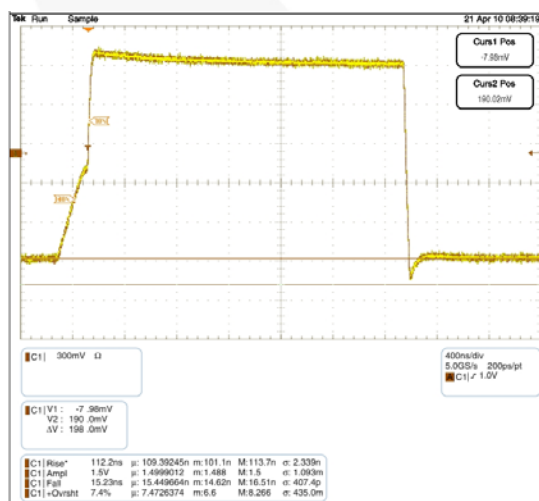

Figure 14. Rise Time Driving 600pF Load
Due to the I^2C open-drain topology, I^2C drivers are not push/pull devices. Logic LOWs are “pulled down” (I_{sink}), while logic HIGHs are “let go” (3-state). For example, when the source lets go of SCL (SCL always comes from the source), the rise time of SCL is largely determined by the RC time constant, where $R=R_{PU}$ and C =the bus capacitance. If the FXMHD103 is attached to the source [on the A port] and there is a source on the C port, the Npassgate acts as a low-resistive short between both ports until either of the port's $V_{CC/2}$ thresholds is reached. After the RC time constant has reached the $V_{CC/2}$ threshold of either port, the port's edge detector triggers both dynamic drivers to drive their respective ports in the LOW-to-HIGH (LH) direction, accelerating the rising edge. The resulting rise time resembles the scope shot in Figure 14. Effectively, two distinct slew rates appear in rise time. The first slew rate (slower) is the RC time constant of the bus. The second slew rate (much faster) is the dynamic driver accelerating the edge.
The FXMHD103 dynamic drivers have enough current sourcing capability to drive an 800pF capacitive bus. The Figure 14 scope shot is of an FXMHD103 driving a lumped load of 600pF. Notice the (30% - 70%) rise time is only 112ns ($R_{PU}=5K\Omega$). This is well below the maximum rise time of 1000ns in Standard Mode (100KHz) or 300ns in Fast Mode (400KHz).